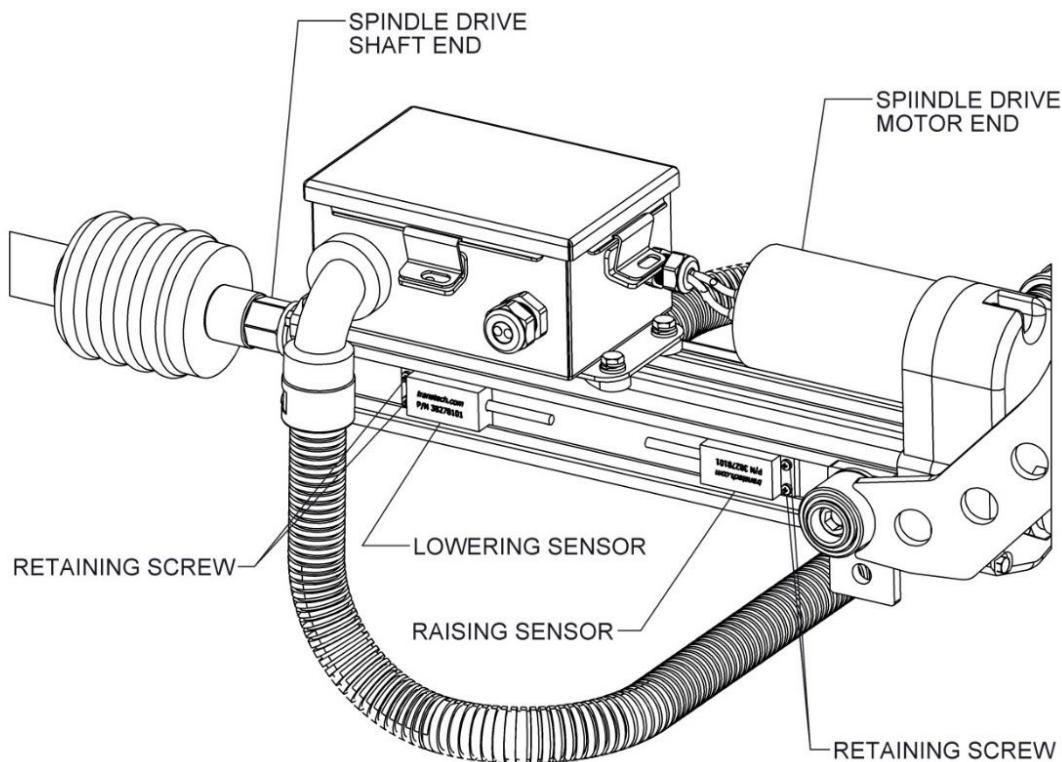

Figure 5-2: Spindle Drive Sensors
5. When the pantograph is raised activate the down command from the car controls. The pantograph will move downward toward the lockdown position. The pantograph is in lockdown position when the upper arm touches the apex bumpers. See Figure 2-1. If the lowering sensor is set too high the pantograph will not reach lockdown position. If the pantograph does not reach lockdown position move the lowering sensor toward the spindle drive shaft end (toward the front of the pantograph). Tighten one of the two retaining screws on the lowering sensor. See Figure 5-2. Repeat this sequence as necessary in small increments until the lowering sensor is adjusted so the head reaches lockdown position and the motor turns off. The motor will turn off as intended when the car receives the signal from the lowering sensor that the pantograph has reached position. When the correct position is reached tighten both retaining screws. Tighten to mechanics feel, there is no torque requirement for these screws. The motor has an over-running clutch that can handle this case, however the pantograph should be immediately raised to prevent over stressing the system.
4. To increase the maximum height, loosen the retaining screws on the raising sensor and move the sensor toward the motor end of the spindle drive (toward the rear of the pantograph). Tighten one of the two retaining screws on the raising sensor. See Figure 5-2. Repeat this sequence as necessary in small increments until the raising sensor is adjusted so the head reaches the correct maximum height. When the correct position is reached tighten both retaining screws. Tighten to mechanics feel. There is no torque requirement for these screws.
5. To reduce the maximum height, loosen the retaining screws on the raising sensor and move the sensor toward the spindle drive shaft end of the spindle drive (toward the front of the pantograph). Tighten the one of the two retaining screws on the raising sensor. See Figure 5-2. Repeat this sequence as necessary in small increments until the raising sensor is adjusted so the head reaches the correct maximum height. When the correct position is reached tighten both retaining screws.